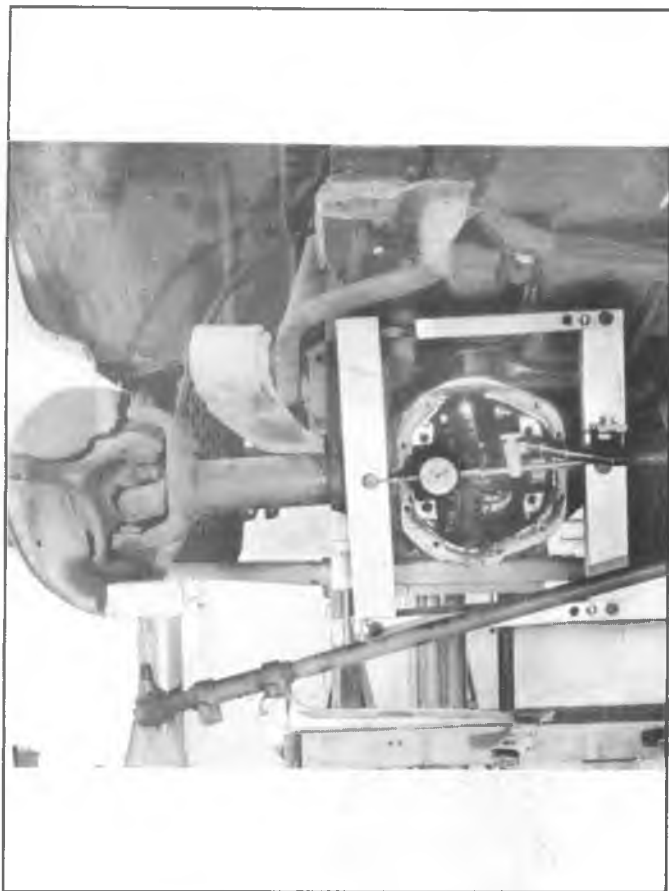

Fig. 4C-4--Removing Differential Case On Vehicle
12. Position Spreader Tool J-24385 so the two dowels on tool fit into recesses in carrier, install two hold down bolts and install a dial indicator at one end of opening in carrier to indicate width of opening, (Fig. 4C-4 and 4C-5).
The axle shaft inner oil seals are located just outboard of the differential bearings, item 28 Fig. 4C-6. They can be replaced only after the differential is removed from the carrier, using tool J-28648.
2. Remove bearing cones from case, using puller J-22888 and correct plug (fig. 4C-8) and remove shims from case. Identify all parts so they may be reassembled in their original location.